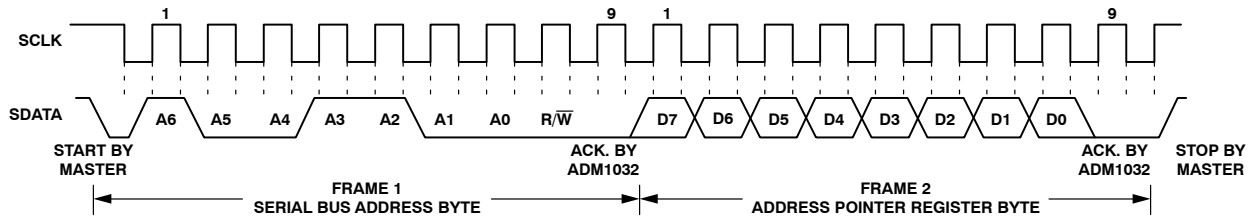
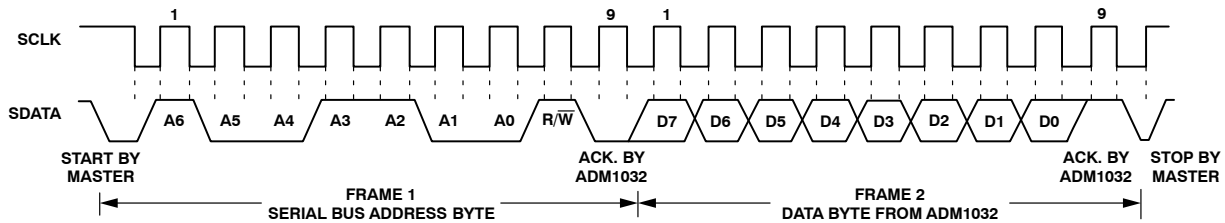

Figure 14. Writing to the Address Pointer Register Only
Figure 15. Reading Data from a Previously Selected Register
1. If the address pointer register value is unknown or not the desired value, it is first necessary to set it to the correct value before data can be read from the desired data register. This is done by performing a write to the ADM1032 as before, but only the data byte containing the register read address is sent because data is not to be written to the register. This is shown in Figure 14. A read operation is then performed consisting of the serial bus address, R/\overline{W} bit set to 1, followed by the data byte read from the data register. This is shown in Figure 15.
2. If the address pointer register is known to be at the desired address already, data can be read from the corresponding data register without first writing to the address pointer register and Figure 14 can be omitted.